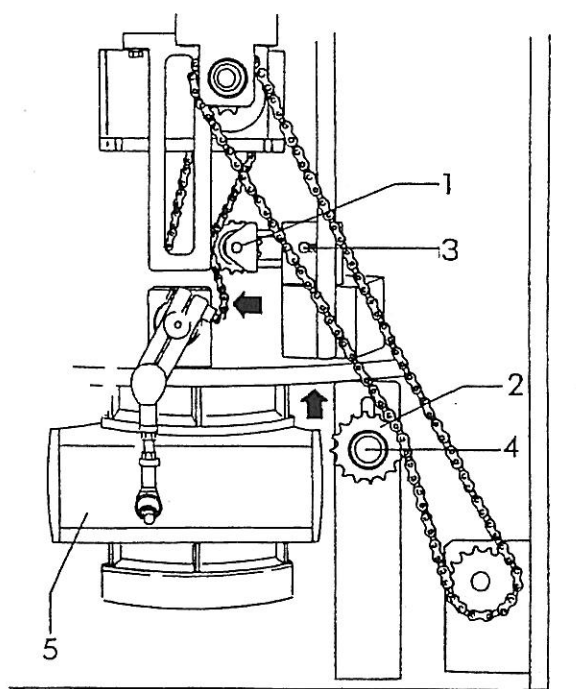

Fig. 13.7.1
In case of excessive lengthening of the chains, the tensioner 1 fig. 13.7.1 or pinion 2 will no longer be able to maintain tension. This may cause slipping of the teeth with consequent dephasing of the machine.
- loosen screws 3 or 4 fig. 13.7.1;
- take the tensioner or pinion close to the chain as indicated by the arrows in fig. 13.7.1, then tighten with screws 3 or 4.